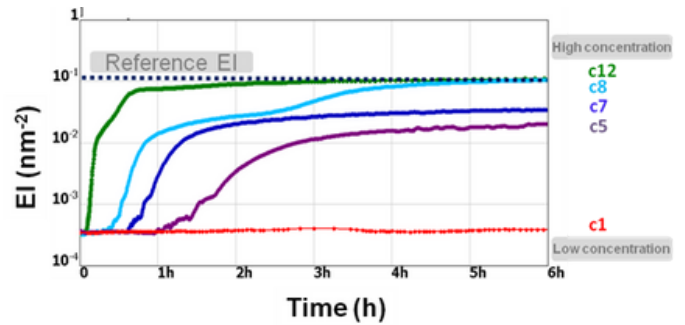

Figure 4. Influence of (a) formulation and (b) temperature on SLB to improve printability.
Rheolaser measures also the viscoelastic properties, such as the elasticity index (EI). The higher the EI, the higher the elasticity of the gel. Figure 4 shows the EI evolution of several concentrations (for better visibility only a few concentrations are plotted). The determined gel strength of each gel is listed in the formulation matrix below.